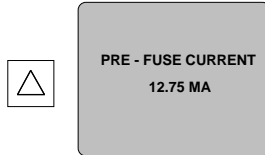

Figure 57
- b) To increase (Figure 57) or decrease the Pre-Fuse current level, press the Increment / Decrement keys.